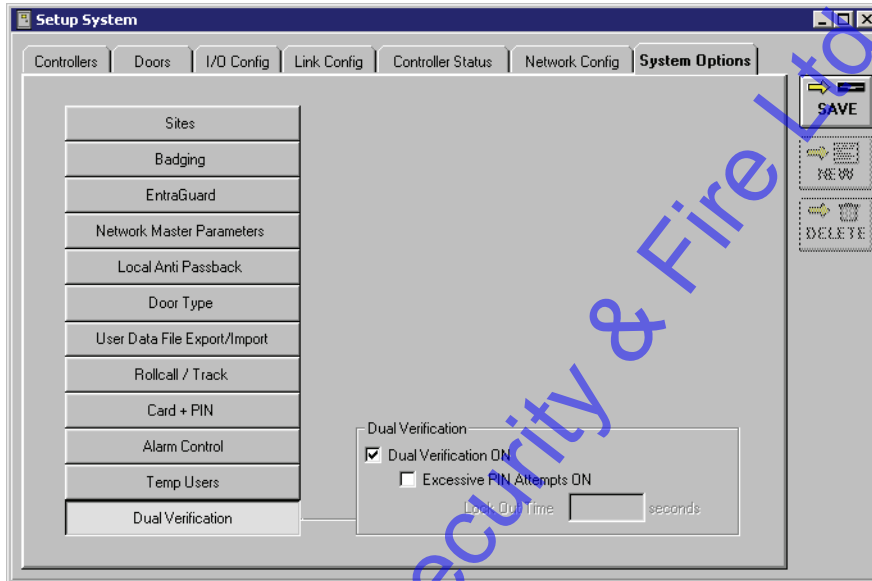

Figure 14-33: System Options Tab - Temp Users Enabled
1. Click on the Setup ⇒ System pull-down menu or click on the  button on the tool bar, click on the **System Options** tab, then click on the  button. The System Options window will change to reveal the dual verification window (see Figure 14-33).